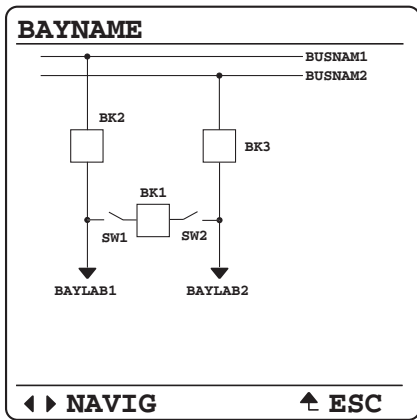
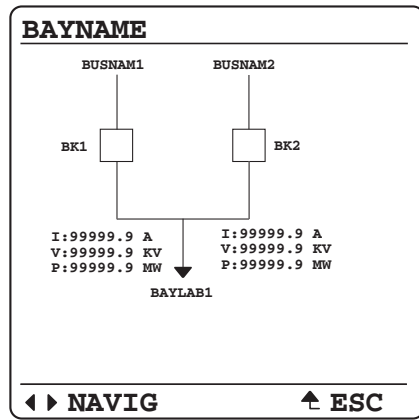

Figure 25 Breaker-and-a-Half
Figure 28 Source Transfer Bus
*Figure 25–Figure 28* are examples of some of the selectable one-line diagrams in the SEL-421. The one-line diagram is selectable from the Bay settings. Additional settings for defining labels and analog quantities are also found in the Bay settings. One-line diagrams are composed of the following: